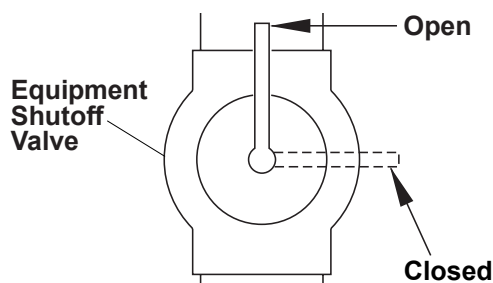

Figure 6 - Equipment Shutoff Valve
1. Close equipment shutoff valve (see *Figure 6*).